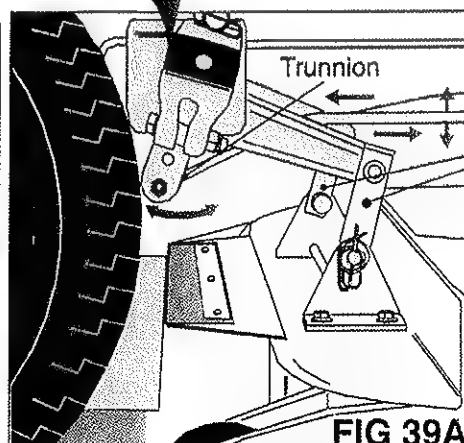

FIG 39A
- 2/ Are the cutter deck Hanger Brackets (fig 39A) moving freely or are they hitching up. To check this lift the cutter deck to its highest position and lift